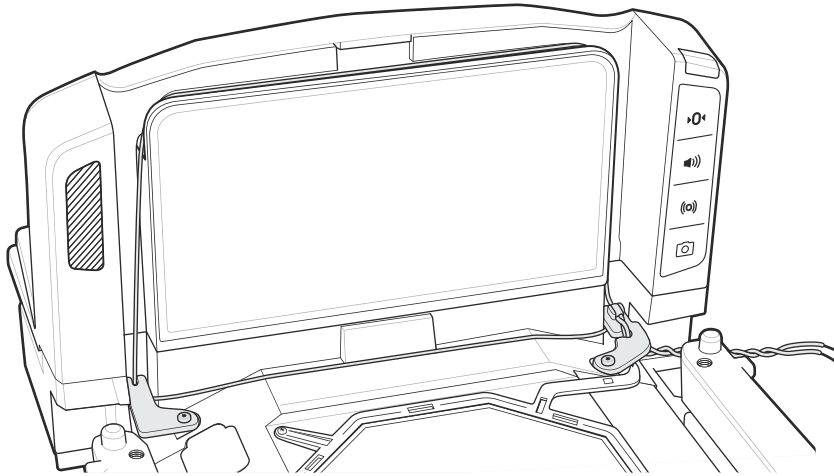

Figure 3-35 *Completed Installation*
10. When installation is complete the wiring, left side and right side brackets, and antenna should resemble the placement in Figure 3-35.